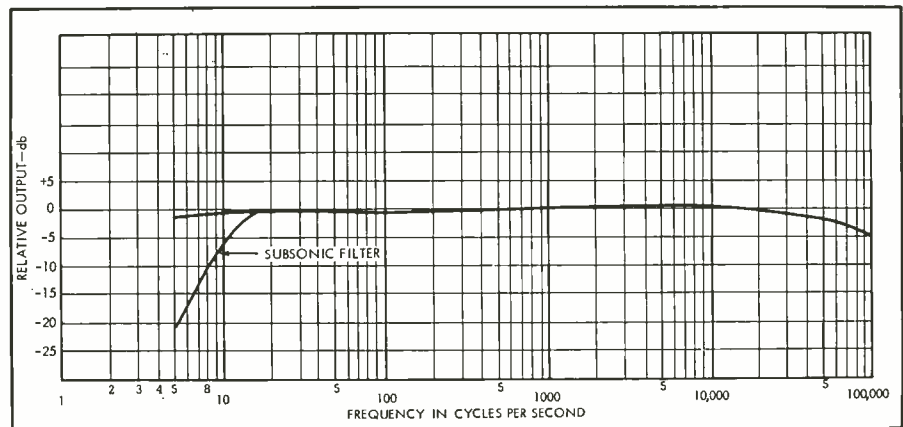
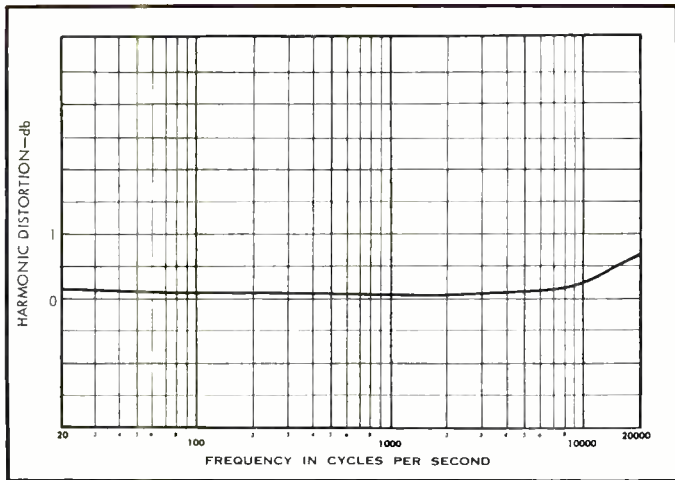

Fig. 2. Frequency response of the SA-1000.
Fig. 3. Harmonic distortion of the SA-1000 at 65-watt rms output.
*Figure 2* shows the frequency response of the SA-1000 within the limits of our test equipment. We do not show both channels because the results were so close that drawing inaccuracies are usually larger. This is also true for *Fig. 3*, which indicates the harmonic distortion at rated power. IM distortion (measured with a 16-ohm load, 60 and 7000 cps mixed 4:1), measured a maximum of 0.4 per cent at rated power to a low of 0.2 per cent at 10 watts rms. Ac-